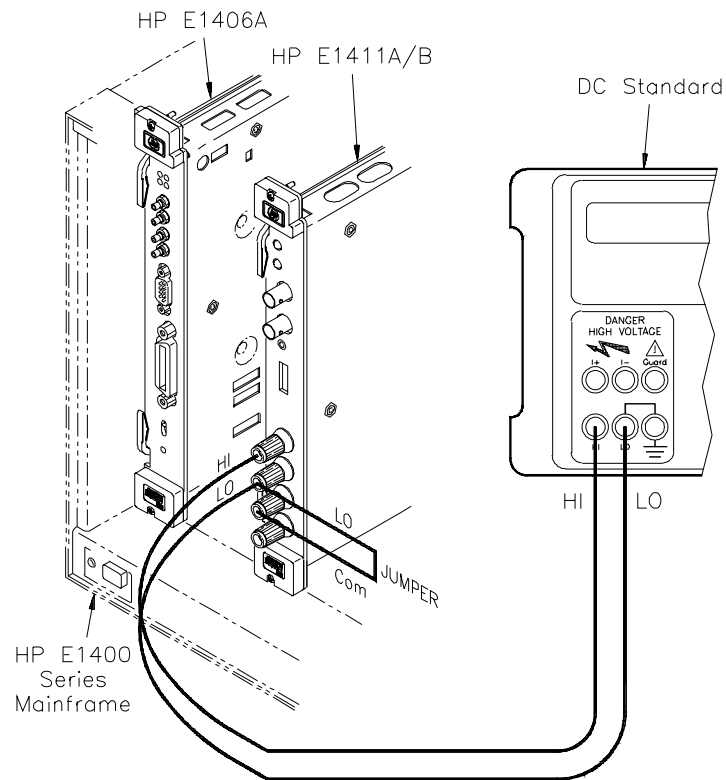

Figure 4-2. DC Voltage (DCV Input) Setup
1. Connect the equipment as shown in Figure 4-2.